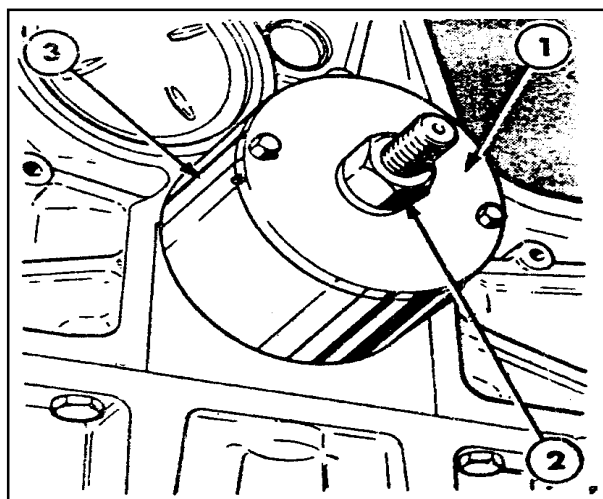

Figure 42
14. Assemble the barrel end plate to the centre stock and secure with the nut and washer. Figure 42.